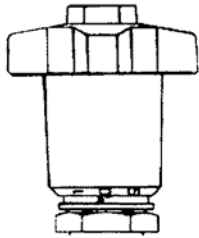
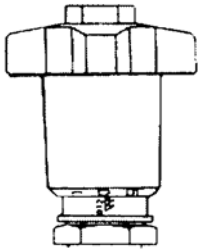

Figure 4 – With no arrows visible, the Inner Scale set at 0 on the indicator line aligned with the 0 on the Outer Scale; the valve is closed.
Figure 5 – Shows a valve setting of 2.0, indicating that the valve is partially open.
- 4.1 The valve operates from closed (Figure 4) to partially open (Figure 5) to fully open (Figure 6) by a counterclockwise rotation of the orange handwheel, using five 360° turns for the 2-1/2" and 3" valves, six turns for the 4", 5" and 6" valves, 12 turns for the 8" and 10" valves and 14 turns for the 12" valve. The position of the valve is indicated by two scales.